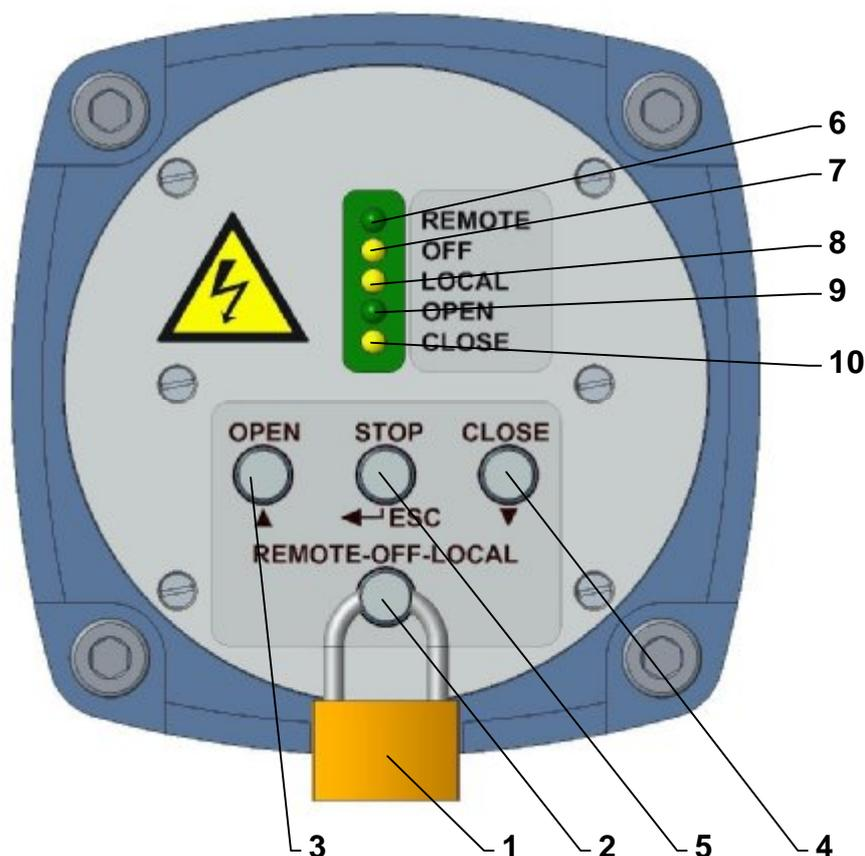

Fig.. 15
4.7 Electric local control (Fig.15)